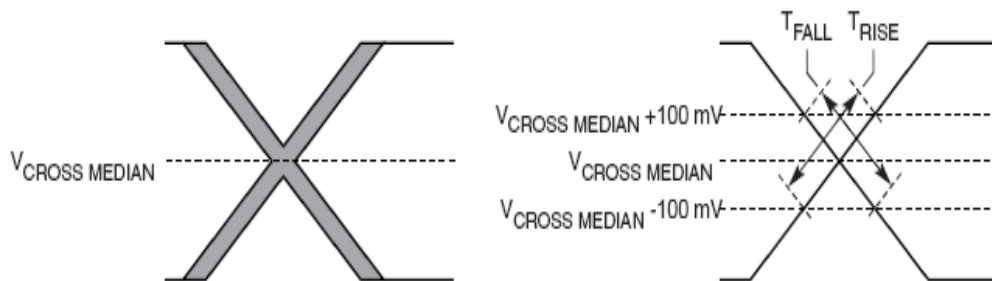

Figure 42. Single-ended measurement points for rise and fall time matching
6. Matching applies to the rising edge for SD_n_REF_CLK and falling edge rate for $\overline{\text{SD}}_{\text{n}}_{\text{REF_CLK}}$. It is measured using a 200 mV window centered on the median cross point where SD_n_REF_CLK rising meets $\overline{\text{SD}}_{\text{n}}_{\text{REF_CLK}}$ falling. The median cross point is used to calculate the voltage thresholds that the oscilloscope uses for the edge rate calculations. The rise edge rate of SD_n_REF_CLK should be compared to the fall edge rate of $\overline{\text{SD}}_{\text{n}}_{\text{REF_CLK}}$, the maximum allowed difference should not exceed 20% of the slowest edge rate. See Figure 42.